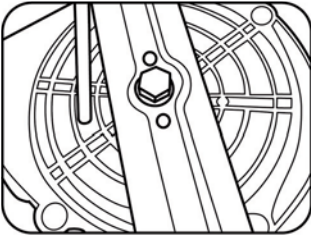

Fig. 8.1
- ✿ Secure the blade against movement using a screwdriver. Figure 8.1